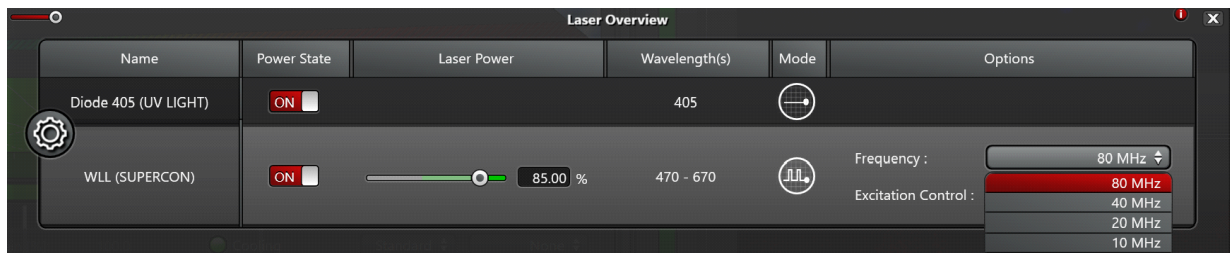

Fig.2
- make sure the pulse picker is set to **80 MHz**, otherwise laser power is significantly lower (Fig.2)